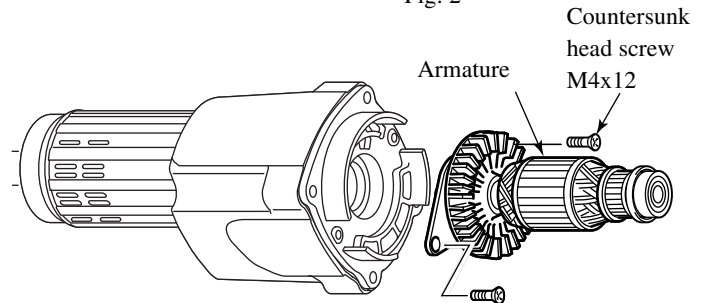

Fig. 3
3) Remove Countersunk head screw M4x12 (2 pcs) and Armature. ( See Fig.3)